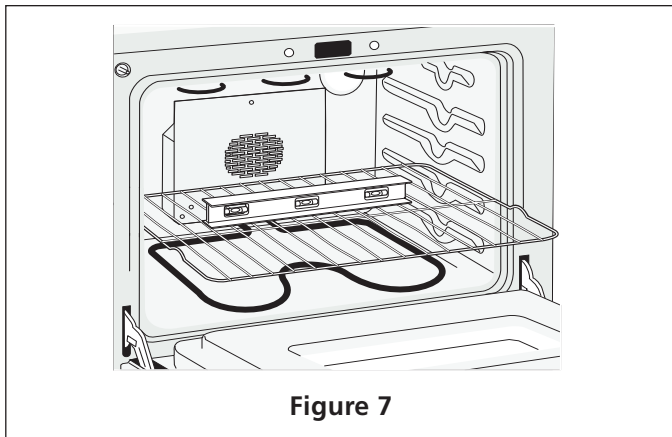

Figure 7
- Install an oven rack in the center of the upper oven (see Figure 7).